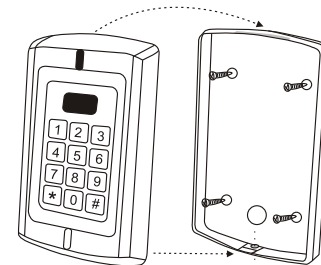

Figure 4
- 4.attach the front cover(See Figure 4)